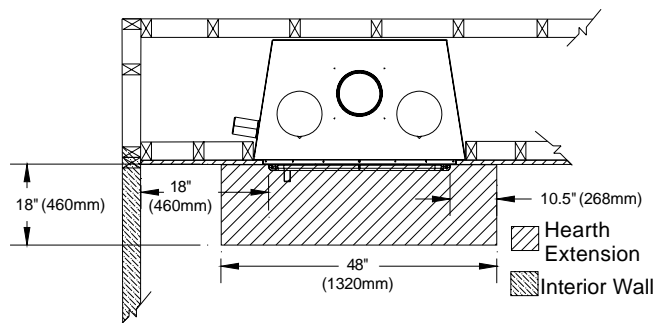
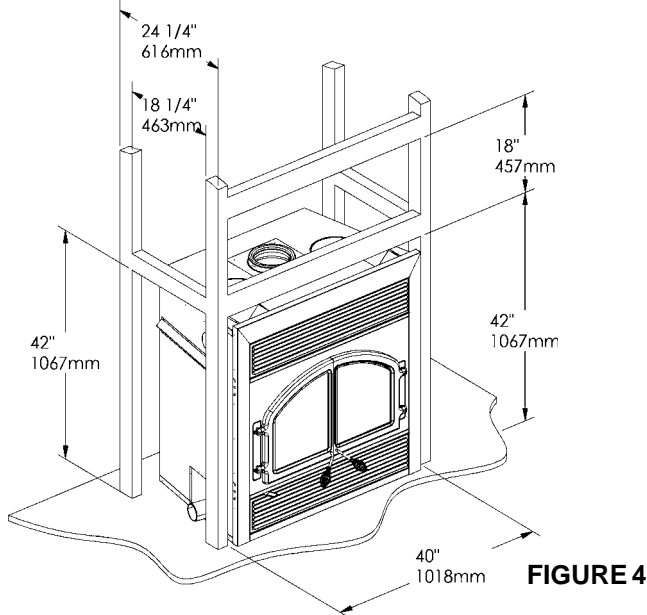

FIGURE 1
FIGURE 4
5. The minimum installed distance from the fireplace opening to an adjacent wall is 457mm (18"). See Figure 1.
8. The first length or elbow located directly on the top of the Fireplace must be secured with a minimum of three (3) #6X3/4" stainless sheet metal screws.
10. Joists should be fully framed at all levels, maintaining the required 50mm (2") minimum air space clearance from the outside of the chimney to the inside of the framing. See Figure 4 for minimum required framing.
Select the fireplace location taking into consideration such things as room size, traffic patterns, location of doors and windows, chimney location, and required clearances to sidewalls (See Figure 1). With proper planning, slight adjustments now can save considerable time and expense later.
Once the fireplace and chimney installation locations have been chosen, remove any combustible materials such as carpeting or vinyl floors from where the fireplace will be positioned. An area for the hearth extension must also be removed 268mm (10-1/2") on both sides of the fireplace opening and 460mm (18") in front of the fireplace (See figure 1).
The fireplace framing and enclosure can be finished using a material of your choice (2X3 or 2X4 studs, plywood, gyproc, etc). Figure 4 shows the minimum framing dimensions.